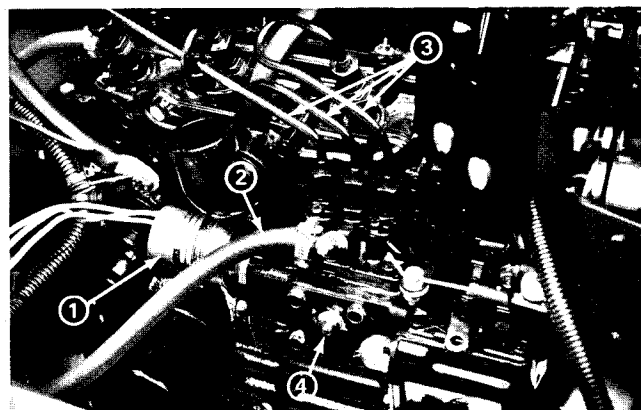

Figure 60a
1. Remove the engine stop solenoid (Fig. 60a). (See Replacing and/or Adjusting Engine Stop Solenoid in the External Engine Component Repair section of this chapter.)